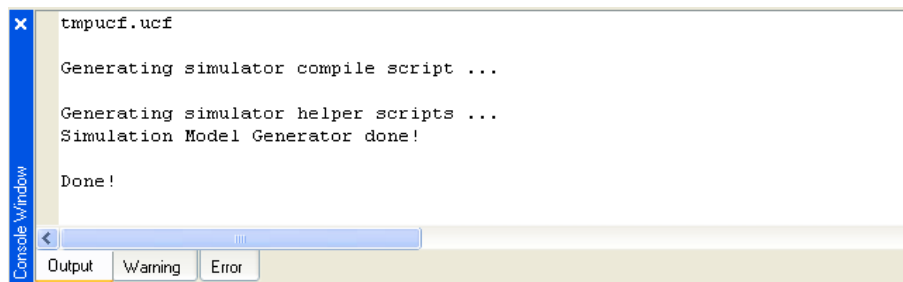

Figure 21: Building Simulation Model Completed
- Build the timing simulation model by selecting **Simulation→ Generate Simulation HDL Files**. The process will take sometime and then the EDK console window will show a message to indicate the completion of the process as shown in Figure 21.